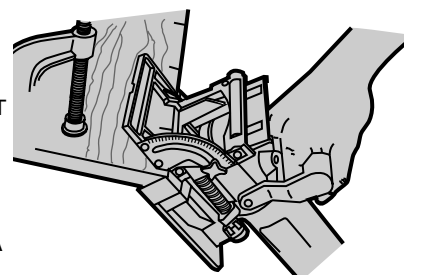

FIG 27
- For joints other than 90° see outside registration column Figure 27 for proper fence angle setting.
- For joints other than 90° see inside registration column in Figure 27 for proper fence angle setting.